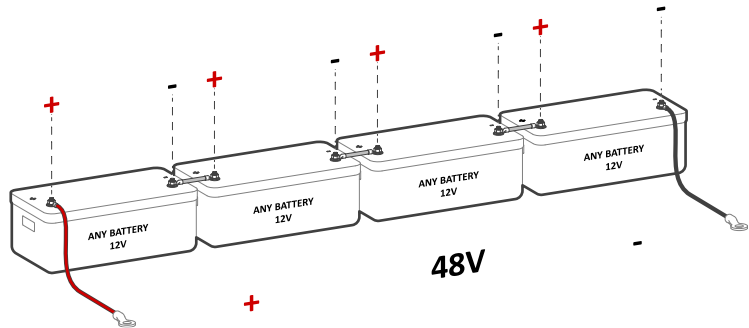

Figure 5b: Four 12V batteries in series connection
⚠ Sol-Ark 5K-1P-L is a **48Vdc nominal system**. **DO NOT** connect the inverter to any other battery configuration. If you use 12V batteries, you **MUST NOT** exceed four (4) batteries in series, as shown in Figure 5b. The inverter can work with any battery chemistry if it remains within the range of **43V to 63V**.